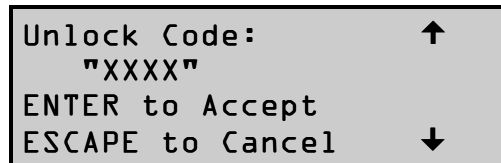

Figure 3-15 Code Accept Submenu
4. When you've completed your code, press the **Escape** button. The screen shown in Figure 3-15 appears. Your code is shown in place of XXXX: